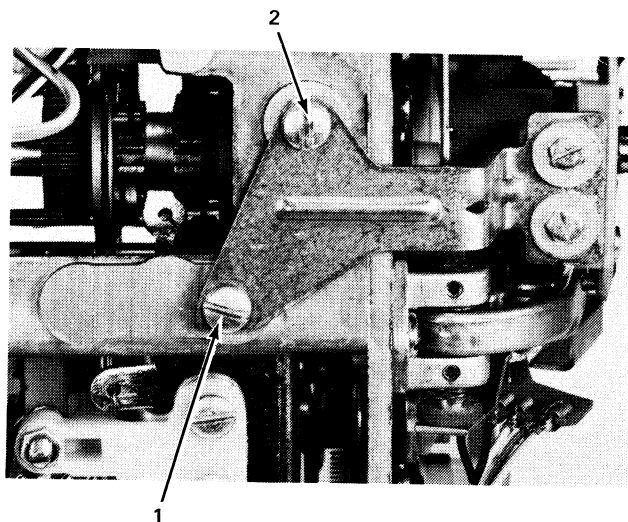

Figure 4-49. Shift Cam Removal (Printer Tilted Up)
5. Loosen the rear screw (No. 1, Figure 4-49) and remove the front screw (No. 2, Figure 4-49) on the shift feedback mounting bracket and remove the bracket.